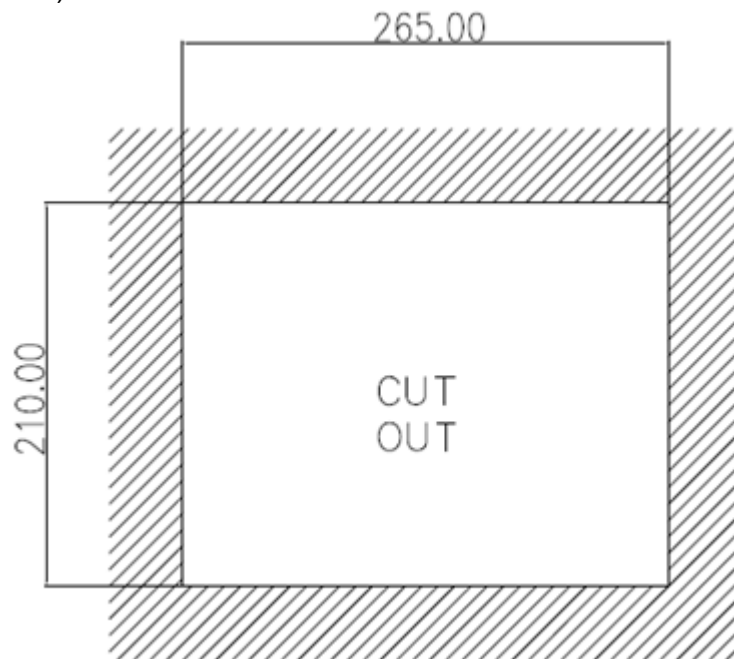

Figure 2.26 PPC-3100S cut out dimensions
- Cut out a panel corresponding to the size shown in Figures 2.26, 2.27, and 2.28. (unit: mm).